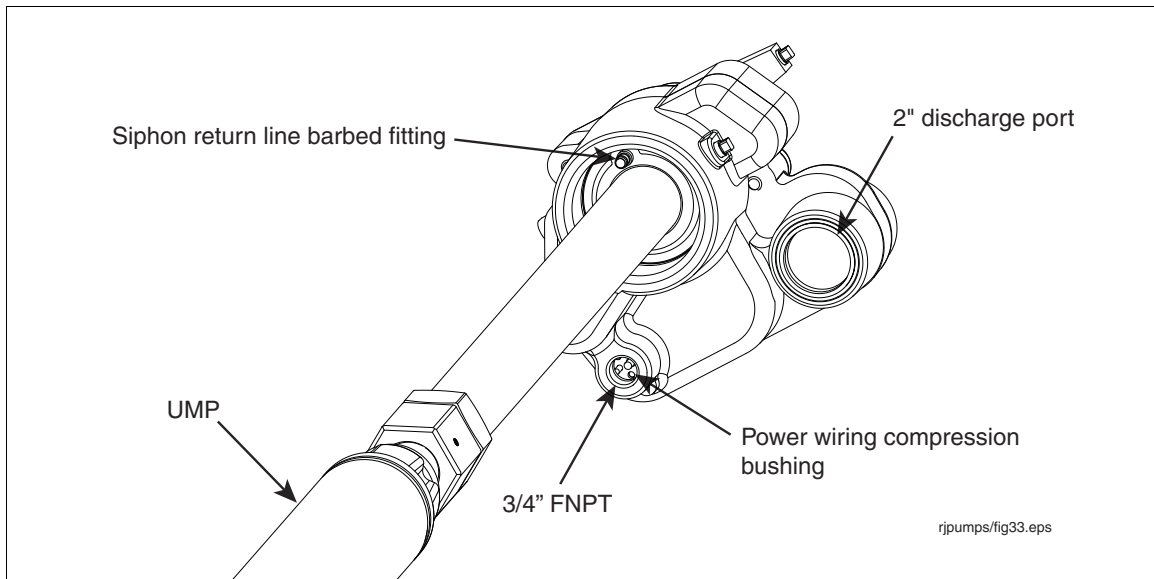

Figure 12. Locating Return Line Fitting On Packer
7. Attach the siphon return line tubing to barbed fitting in the base of packer and secure with a clamp (see Figure 12).